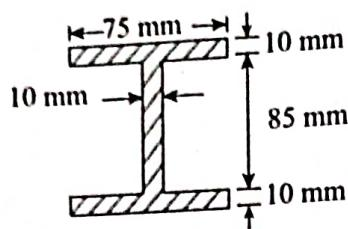

Figure 9.3
**EXAMPLE 9.3:** A beam, the cross-section of which is shown in Fig. 9.3, acts as a cantilever, which projects 1.8 m from the wall. The cantilever carries a load of 5 kN at the free end. Calculate the maximum bending stress.